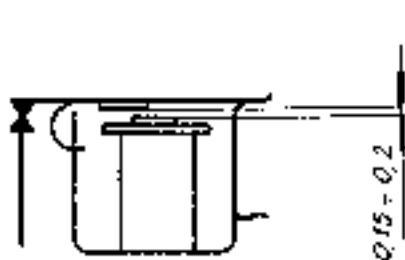

Fig. 81
1. Adjust the sensitivity of the switch, in such a way that it makes contact with its center with the case over a stop plate whereby the gap between the front part of the armature and the yoke should not exceed 0.1 mm (Fig. 81).
2. With lightly made contacts, set the gap between the core and the stop plate at the point of contact of the stop plate and core to 0.15 to 0.2 mm (Fig. 81).